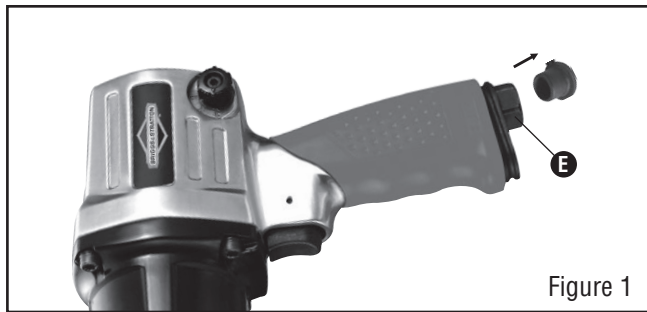

Figure 1
1. Remove the air inlet protective cap from the air inlet (E). (See Figure 1)